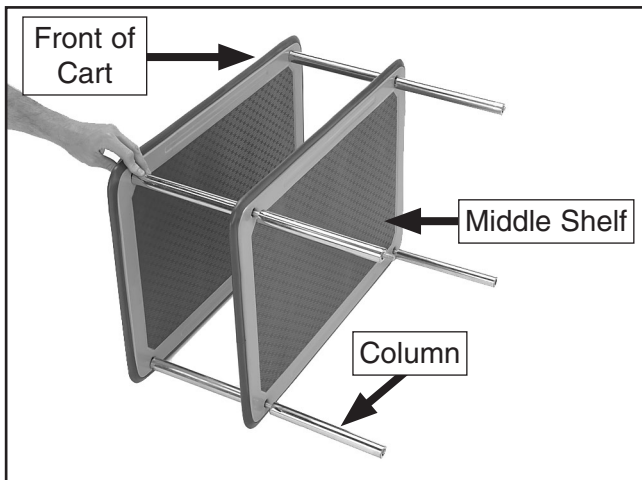

Figure 4. Middle shelf installed.
- Slide the middle shelf through the support rods (**Figure 4**), then install a column onto each rod.